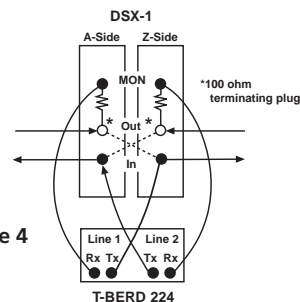

Figure 4
- 4 Connect a cable from the T-BERD 224's **LINE 2 TX** jack to the DSX-1 A-Side IN jack, then immediately insert a 100 ohm terminating plug into the Z-Side OUT jack (Figure 4). **NOTE: NEVER insert the terminating plug first.**